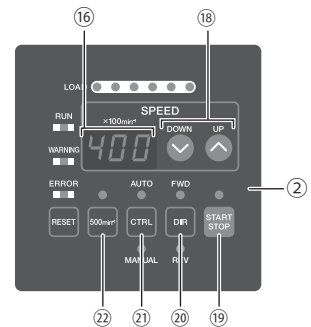

Fig. 25
### 15 - 1 Selecting Control Mode (MANUAL / AUTO). (Select the control button (CTRL) ⑳ of the Fig. 25.)
- (1) Using the CONTROL (CTRL) Button you can select between Manual (Front panel control) or Auto (External Signal Source) modes. External Signal Source can be used to control Motor Start / Stop, Rotation Direction, Motor Speed etc. from an external control source (CNC).
- (2) When operating with the CONTROLLER Control Panel, push the Control Button (CTRL) of Fig. 25 and select MANUAL. The Manual LED will illuminate.
When operating from an External Signal Source, push the Control Button (CTRL) of Fig. 25 and select AUTO. The AUTO LED will illuminate.
- (1) Set Motor Rotating Direction (Set the Rotation Direction Button (DIR) ⑳ of the Fig. 25.)
- (2) Set 500 min-1 (rpm) Centering Rotation (Set the 500 min-1 Button ㉒ of the Fig. 25.)
- (3) Motor Start / Stop (Motor Start / Stop by pushing the Start / Stop Button (START / STOP) ⑲ of the Fig. 25.)
- (4) Setting Motor Speed (Set the Motor Speed Adjustment Button (SPEED Ⓐ, Ⓑ) ⑱ of the Fig. 25.)
Motor Speed Range is 1,000 - 40,000 min-1 (rpm). Maximum motor speed depends on motor and spindle model. Setting parameter  $P2$  to  $U1$  will allow the motor speed to be adjusted in Auto Mode using the Motor Speed Adjustment Button (SPEED  $\blacktriangle$ ,  $\blacktriangledown$ )  $\text{\textcircled{18}}$  of the Fig. 25.